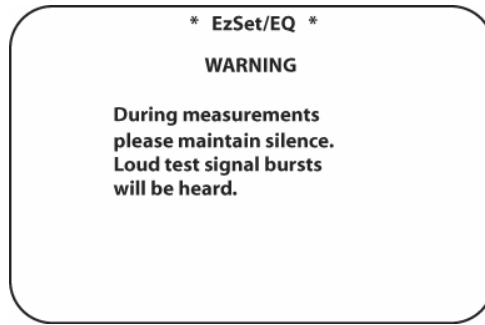

Figure 24 EzSet/EQ Warning
Step 6: After entering YES to start the EzSet/EQ system, you will next see a warning message (**Figure 24**), and the screen will then change to the main EzSet/EQ menu. The WARNING screen is a reminder that in order for the system to perform accurate measurements, it is important that the listening room be as quiet as possible. After 5 seconds, the screen will change again to display the main EzSet/EQ menu.